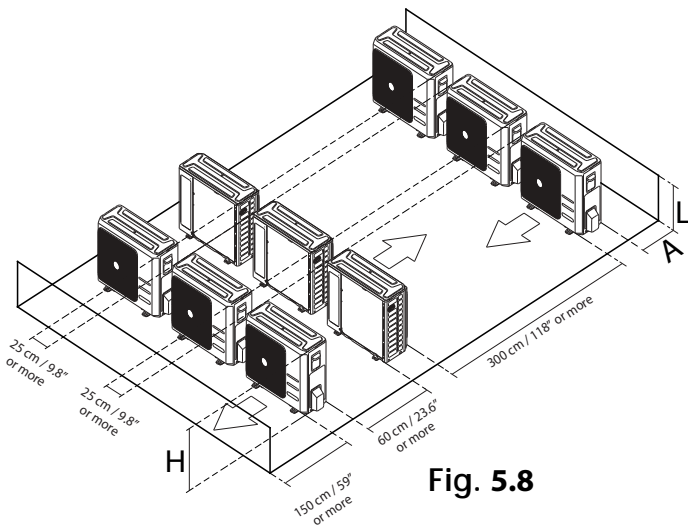

**Fig. 5.7**
**NOTE:** The minimum distance between the outdoor unit and walls described in the installation guide does not apply to airtight rooms. Be sure to keep the unit unobstructed in at least two of the three directions (M, N, P). (See Fig. 5.7)